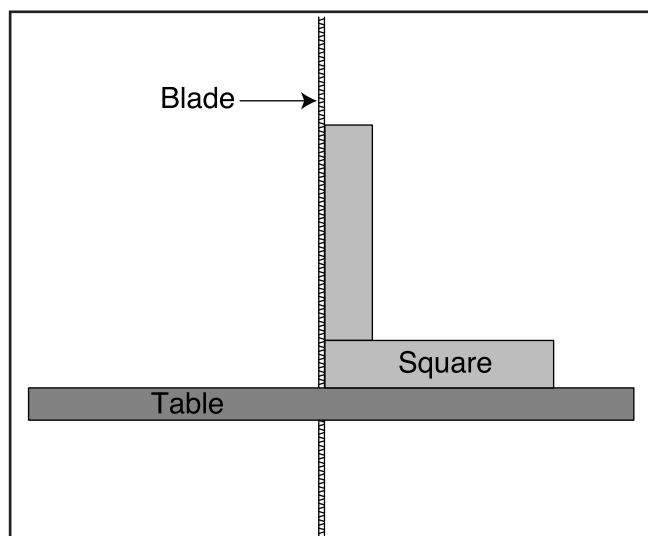

Figure 16. Squaring table to blade.
3. Raise the upper blade guide assembly and place a 6" machinist's square on the table against the blade as shown in **Figure 16**. Notice how far out of square your table is and approximate this distance by adjusting the positive stop up or down. Turning the positive stop counterclockwise will raise it and clockwise will lower it. Adjust the positive stop so the table will stop at a 90° angle (square) to the blade.